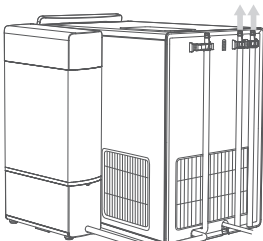
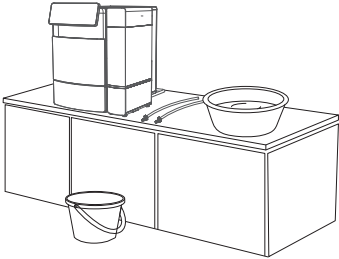

Figure 1
Figure 2
1.2 Preparation before cleaning: Unplug the drain extension pipe (see Figure 1) and put the water basin on the countertop with the water bucket in front of it (see Figure 2) .